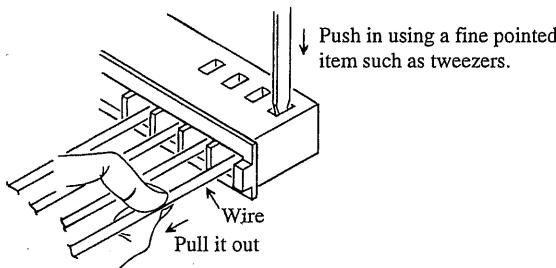

Fig. 1-4 Pulling a Wire out of a J3 Cable
- ② Pull any unnecessary wires out of the J3 cable connector. For information on how to pull out these wires, see Fig. 1-4.